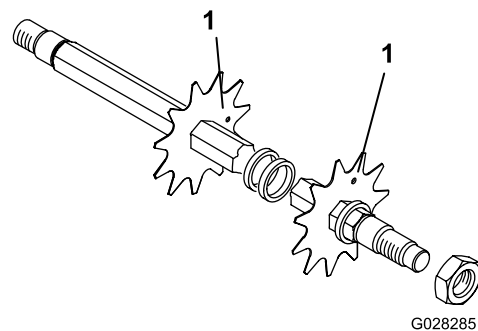

Figure 6
3. Install the next blade counter-clockwise so that the index reference hole is misaligned with the first blade hole by 1 hex of the shaft (Figure 6). Continue to install spacers and blades in this manner until the full complement of blades have been installed.